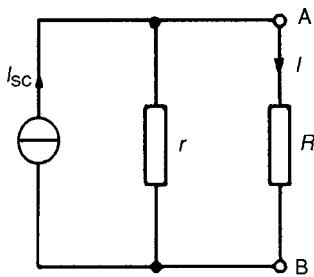

Figure 13.53
Note the symbol for an ideal current source (BS 3939, 1985), shown in Fig. 13.53
- (iv) determine the current  $I$  flowing in resistance  $R$  from the Norton equivalent network shown in Fig. 13.53, i.e.